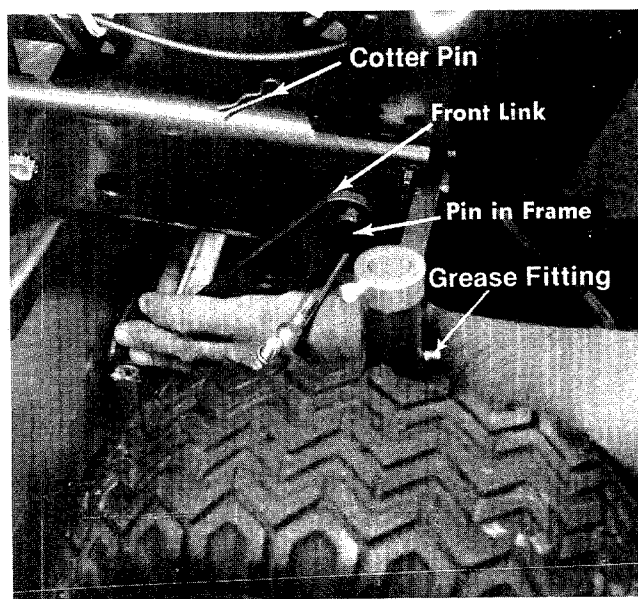

FIGURE 6 . FRONT LINK ASSEMBLY
- From the front of the rider, grasp both front links and hook them in the pins in frame and secure with cotter pins. (See figure 6.)